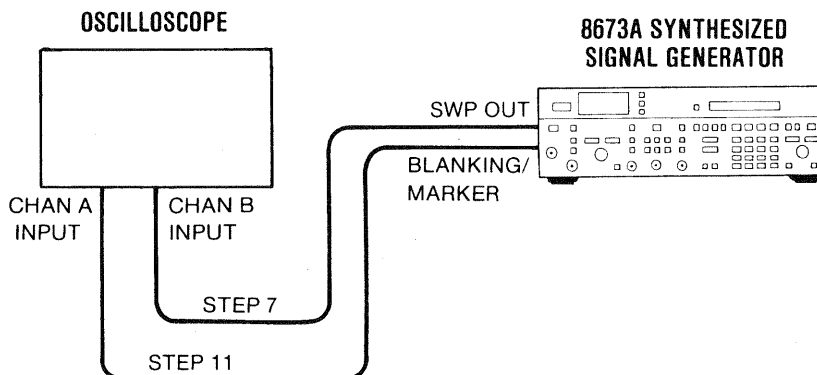

Figure 5-16. Sweep Out and Blanking/Marker Adjustments Test Setup
7. Connect the Signal Generator to the oscilloscope's channel B input as shown in Figure 5-16.